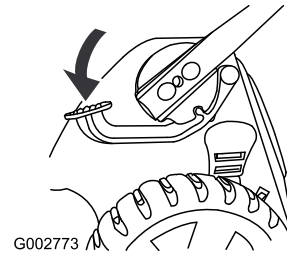

Figure 38
1. Step on the foot pedal and hold it down (Figure 38).